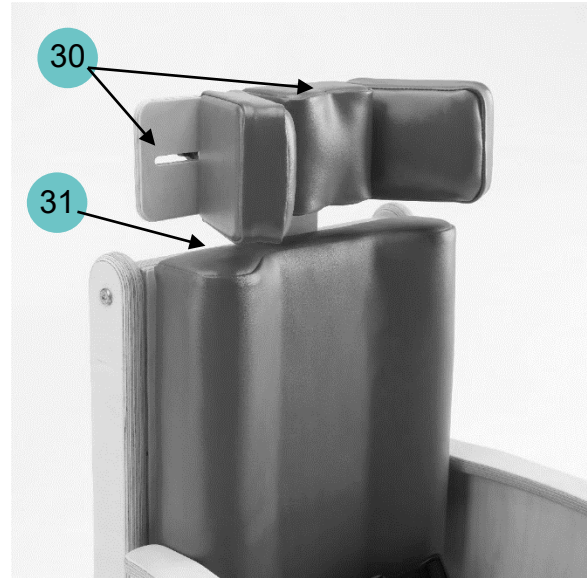

Figure 28
- To adjust the width of the headrest cushions, loosen the handwheels (Ref. 30 of Figure 28) located on the back of the headrest.
- To adjust the height of the headrest, loosen the handwheel (Ref. 31 of Figure 28) located at the top of the backrest.